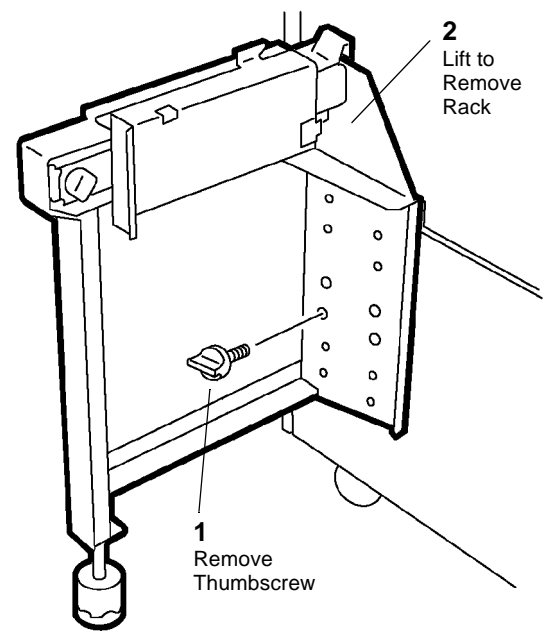

Figure 4 Removing Front Rack
1. Reinstall the Cam Bracket Assembly (Figure 4).
5. Remove Front Rack (Figure 4).